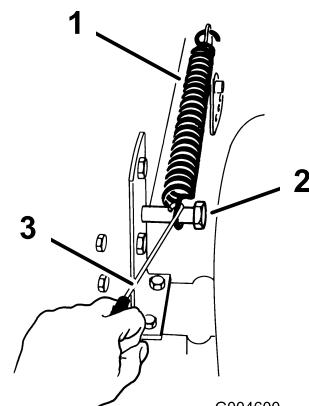

Figure 39
- 9. Remove the height-of-cut lift assist spring from the retaining bolt (Figure 39), using the spring tool provided with the tractor.
19. Hook the height-of-cut lift assist spring onto the retaining bolt (Figure 39) using the spring tool provided with the tractor.